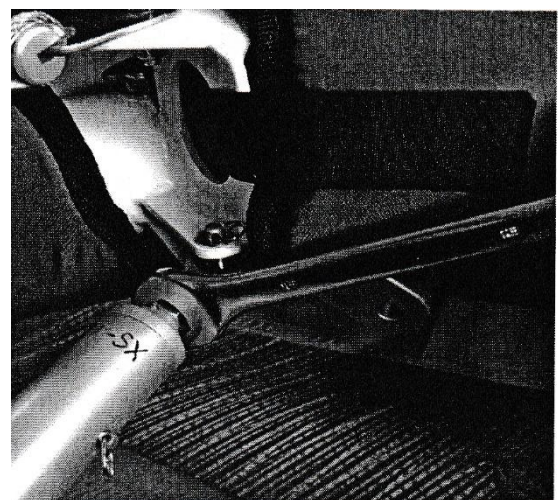

Figure 58
Using the wrench as shown in fig. 58, unlock the sprog threaded adjuster.
6. Using the wrench as shown in fig. 58, lock the sprog threaded adjuster.